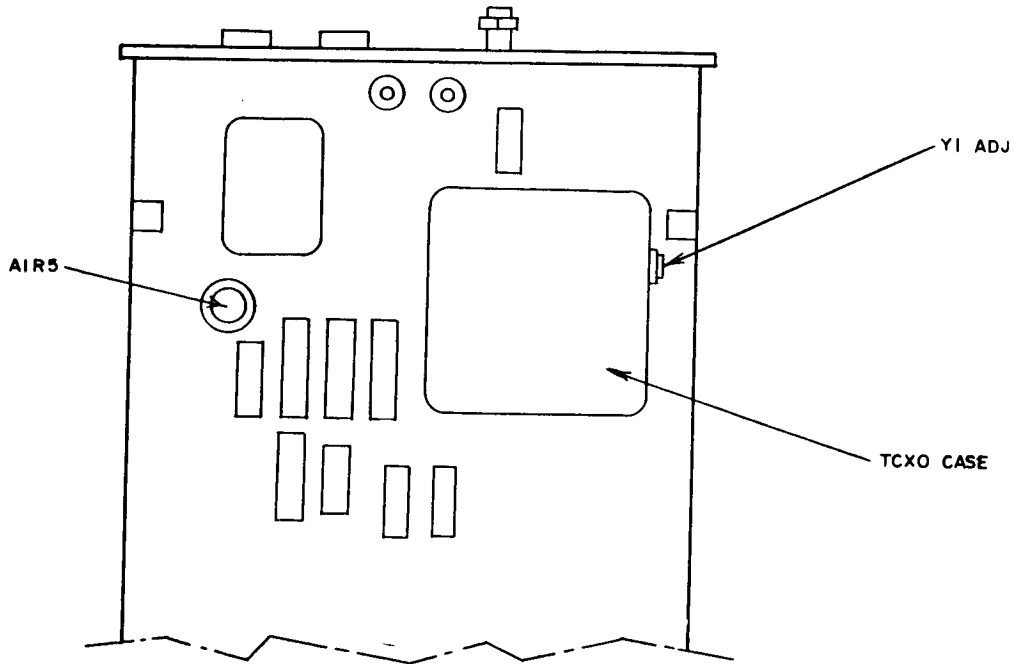

Figure 1. Test instrument - (Hewlett-Packard, Model 5303B) - bottom view.
- (1) Connect frequency counter **A** input to TI **OSC** jack (rear panel).
- (2) Adjust Y1 ADJ (fig. 1) as required to obtain frequency counter indication of exact frequency stamped on TCXO CASE (fig. 1).
- (3) Adjust autotransformer output from 105 to 125 V while monitoring frequency counter indication. Frequency will not change by more than 0.5 Hz.
- (4) Adjust autotransformer output for 115 V.
(1) Connect signal generator to 525 MHz jack, using adapter and cable.
(2) Press **1 kHz RESOLUTION** pushbutton.
(3) Adjust signal generator frequency for 500 MHz and amplitude to obtain 100 mV.
(4) Adjust A1R5 (fig. 1) for stable indication of applied frequency on measuring system (R).
(5) While reducing signal generator amplitude, continue adjusting A1R5 until maximum sensitivity is obtained.